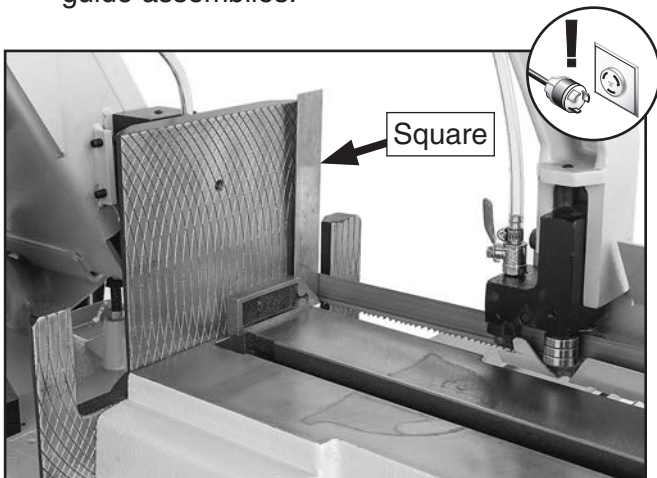

Figure 84. Checking blade-to-table squareness.
3. Place square on table bed and against edge of blade (see **Figure 84**), and check different points along length of table between blade guide assemblies.